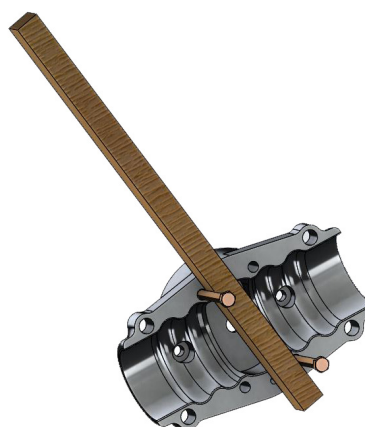

Figure 8- Counter Torque Diagram
Broom Trick: Temporarily install forward hub's mounting bolts and place a broom stick between them (Figure 8) while you torque desired mounting bolts per Table 5.
3. Slide the pitch paddle and protractor on the left blade as shown in Figure 8. Make sure the pitch paddle is parallel with the blade's cord-line and rotate the blade to the suggest starting pitch angle in Table 6 and snug clamping bolts.